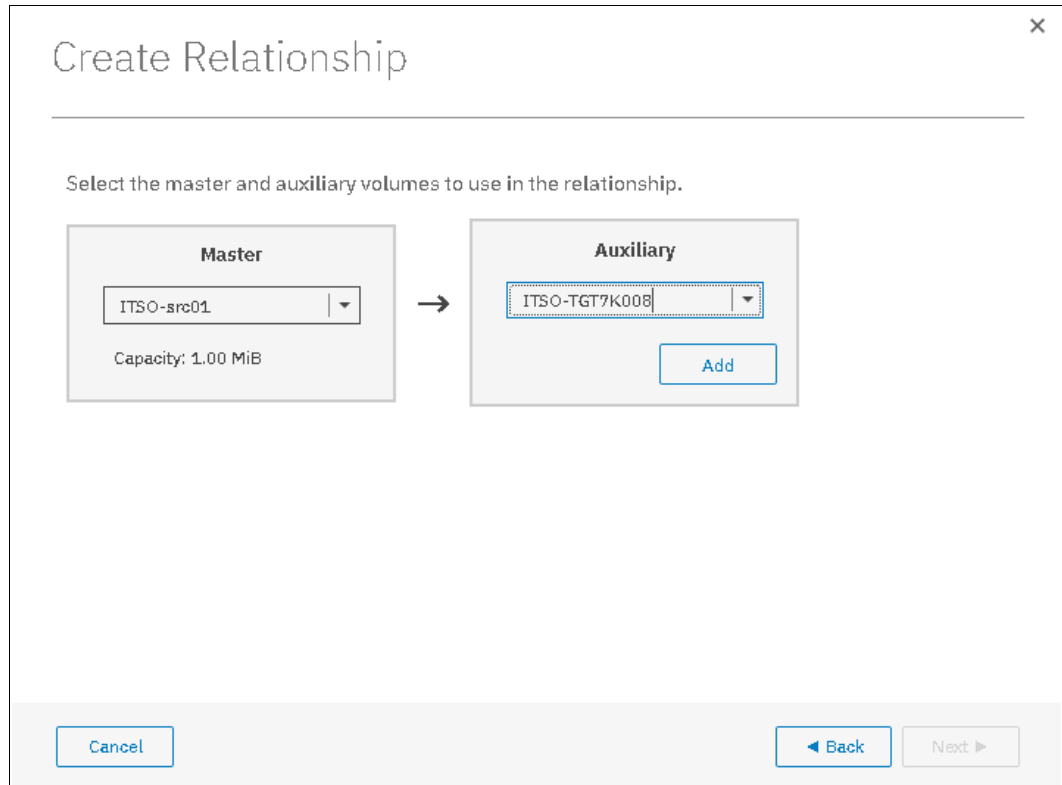

Figure 10-90 Select a volume for mirroring
5. In the New Relationship window that is shown in Figure 10-90, you can create relationships. Select a master volume in the Master drop-down list. Then, select an auxiliary volume in the Auxiliary drop-down list for this master and click **Add**. If needed, repeat this step to create other relationships.